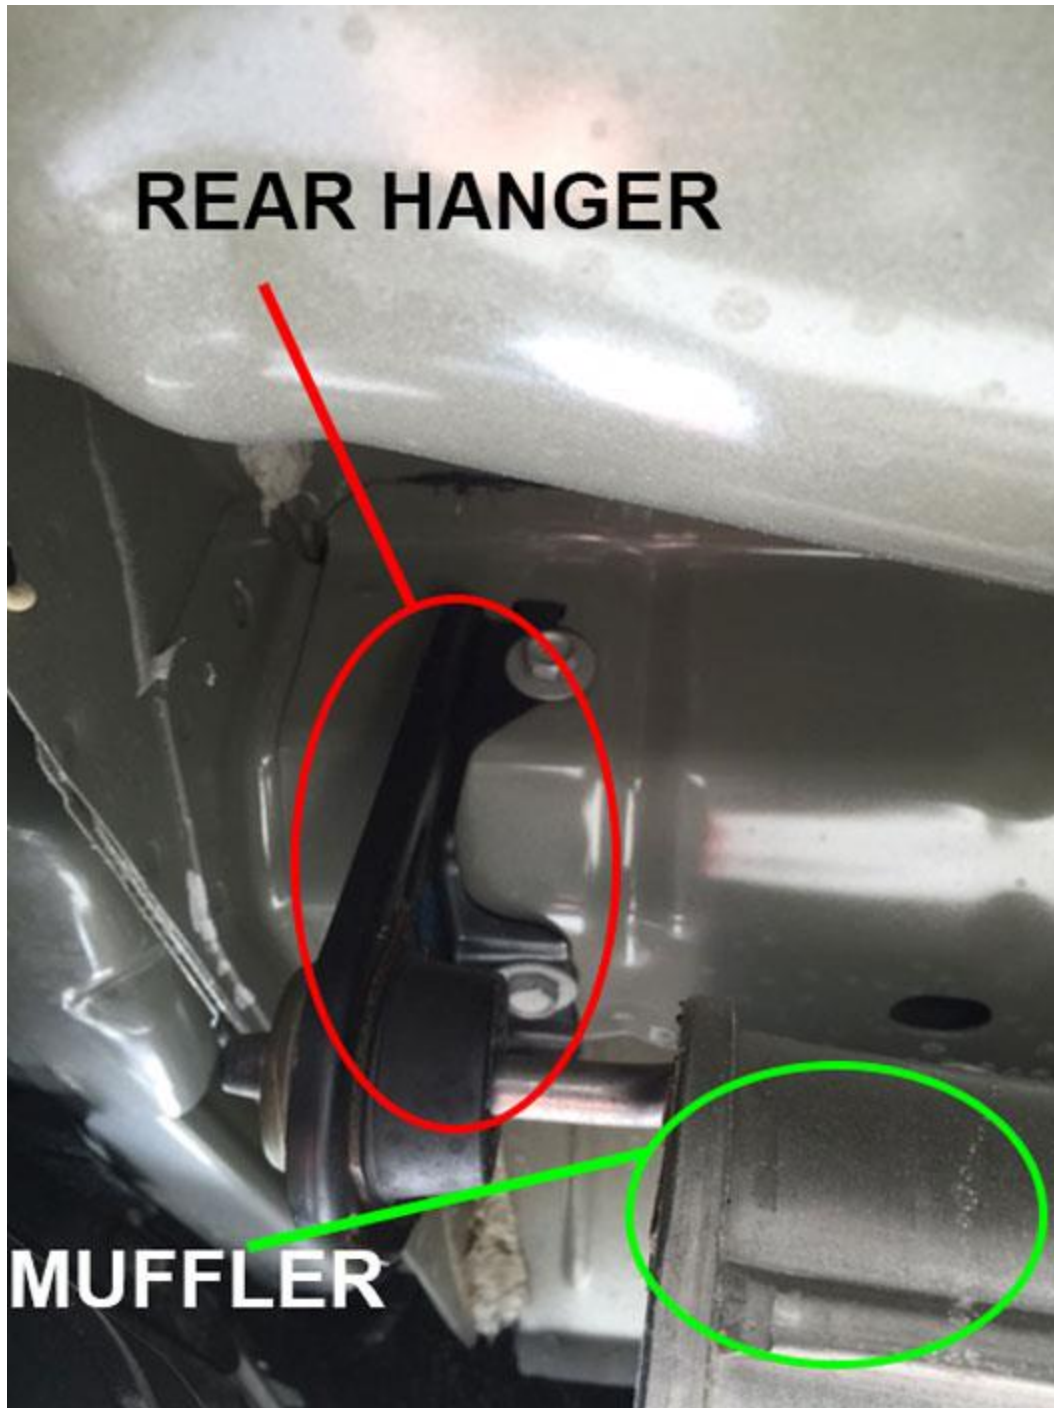

Figure 1d Rear exhaust hanger located behind rear bumper.
9. Place the rear hanger post (closest to the muffler) into the rear hanger rubber bushing that is just behind the back bumper and slide it back far enough that you can connect it to mid-pipe on the right side (passenger side) of the car. **(See figure 1d for reference.)**